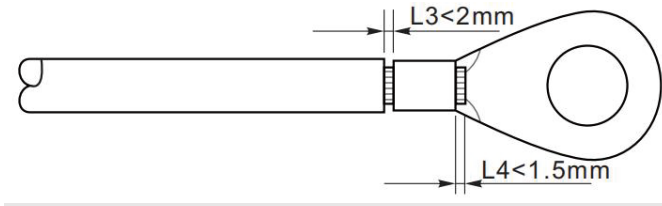

Figure 5-3 Grounding connection instruction (2)
Step 2: Insert the exposed core wires into the OT terminal and crimp them by using a crimping tool, as shown as figure 5.3. Recommend using OT terminal: OT-M6, Cable: $\geq 6\text{mm}^2$